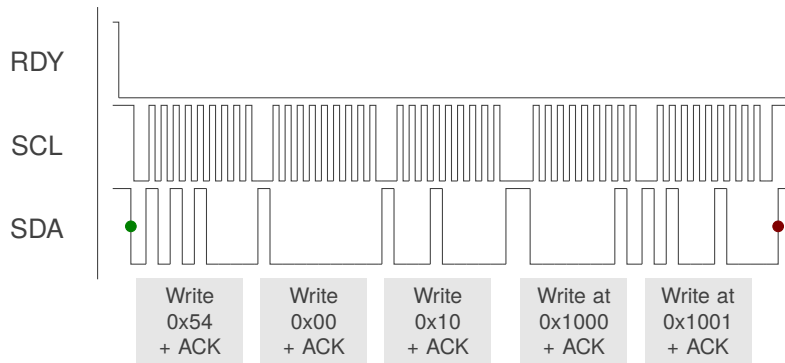

Figure 10.2: I²C Write Example — Write Two Bytes to Button Settings Registers 0x1000 and 0x1001
The write operation is displayed in Figure 10.2. Similar to the read transaction, when the RDY interrupt is triggered, the master initiates communication by sending a start condition followed by the device address and a write command. The IQS325 responds with an acknowledgement, after which the master device transmits two bytes defining the register address. The slave acknowledges the register address bytes. The master may then write a series of bytes to the register address and the addresses that follow, with each byte being acknowledged by the slave. The write operation is ended when the master produces a stop condition.
- > Write the new values back over I²C, as shown in Figure 10.2.